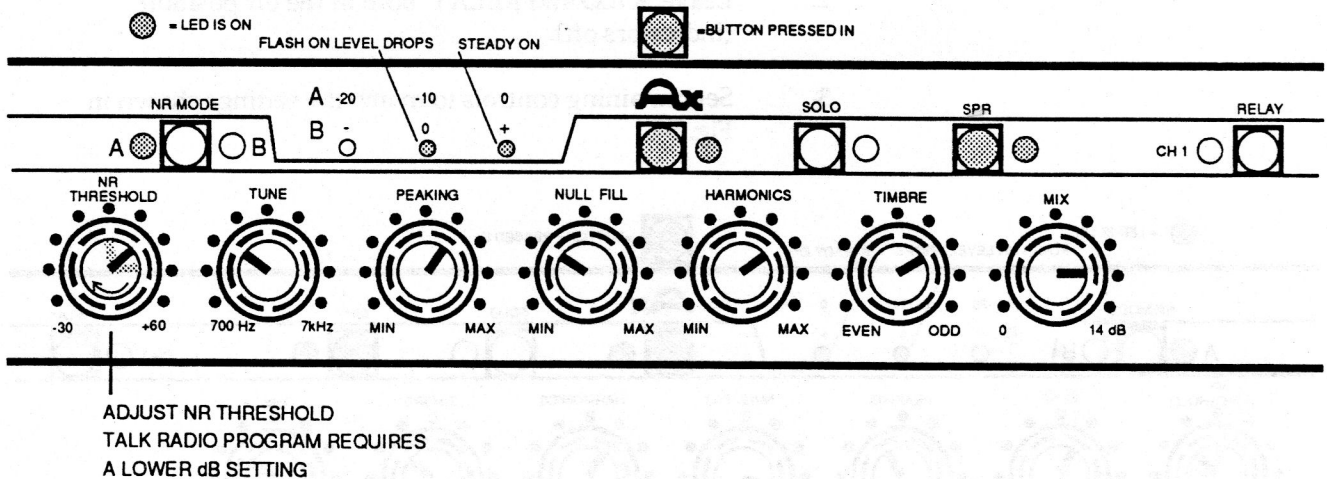

Fig. 5-7. Settings for exciting AM broadcast audio.
- Set remaining controls to match the settings shown in Fig. 5-7.